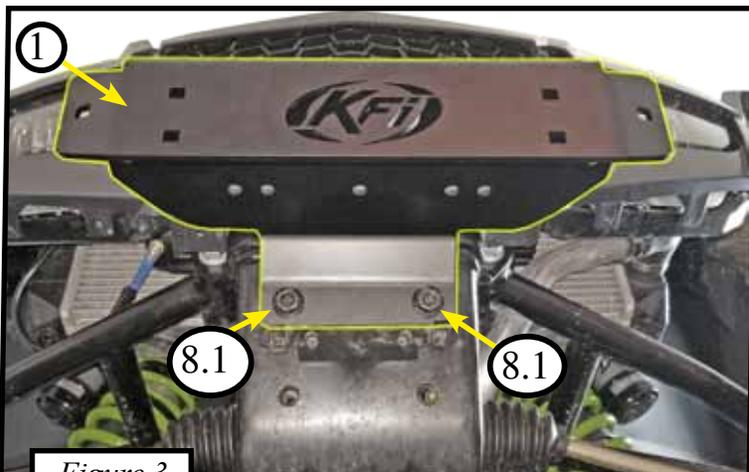

Figure 3
2. Loosely install winch mount (1) using two M12 bolts (8.1) (use existing threaded holes in your machine) as shown in Figure 3